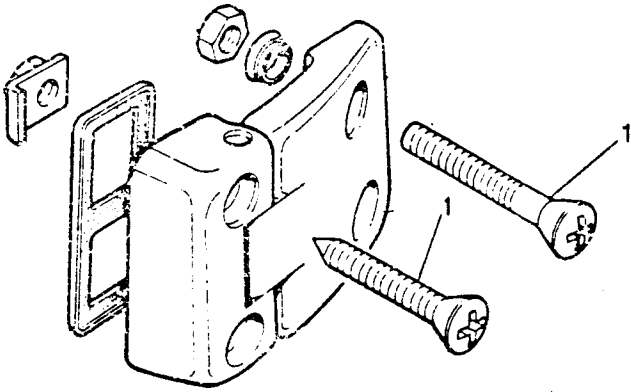

Fig M3.4
- (2) Refer to Fig M3.4. Remove the fixings (1) securing the hinges.
- (3) Withdraw the door.